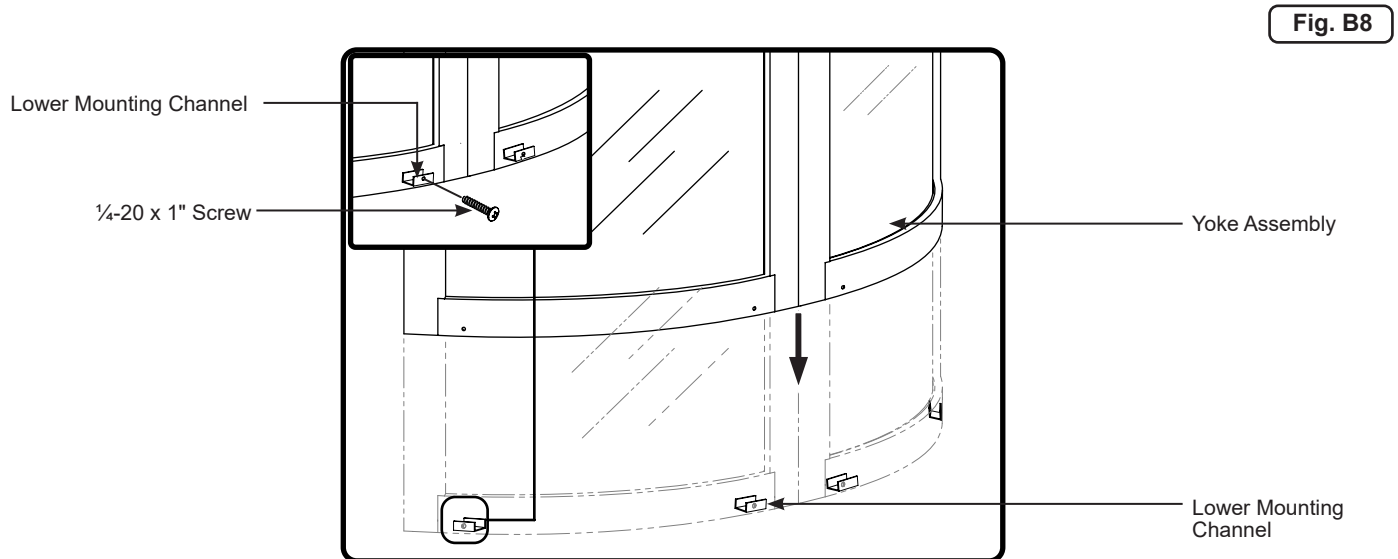

Fig. B8
13. Secure each section to the lower mounting channel with a $\frac{1}{4}$ -20 x 1" screw (Figure B8).